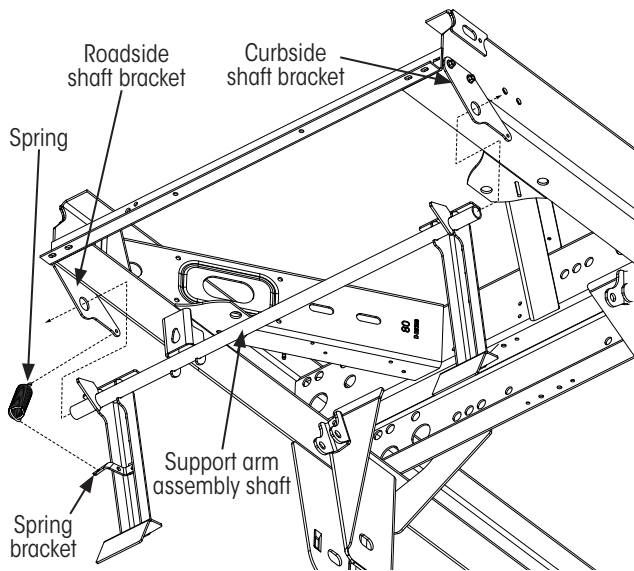

Figure 20: Support arm assembly installation
2. **Insert** one end of spring (Figure 20) through spring bracket hole on support arm assembly.
4. **Insert** roadside end of the support arm assembly shaft (Figure 20) into roadside shaft bracket.